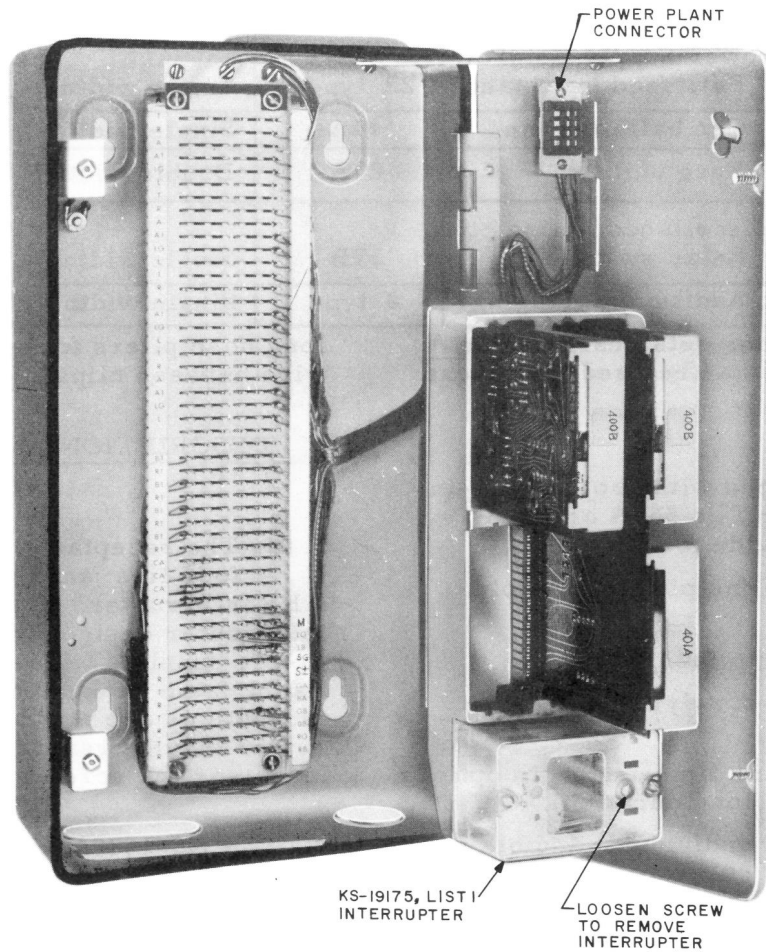

Fig. 4 - 550A Key Service Unit
- 550A KSU (Fig. 4) requires connection to an external power supply. (Refer to 3.04.)
3.01 The receptacle assembly contains four line jacks plus separate jack for a KS interrupter. A KS-19175, List 1 interrupter designed for 10-volt ac operation is supplied with each KSU. Lamp flash, lamp wink, and ringing signal interruptions are provided for. The interrupter may be removed from its jack by loosening the screw shown in Fig. 4.